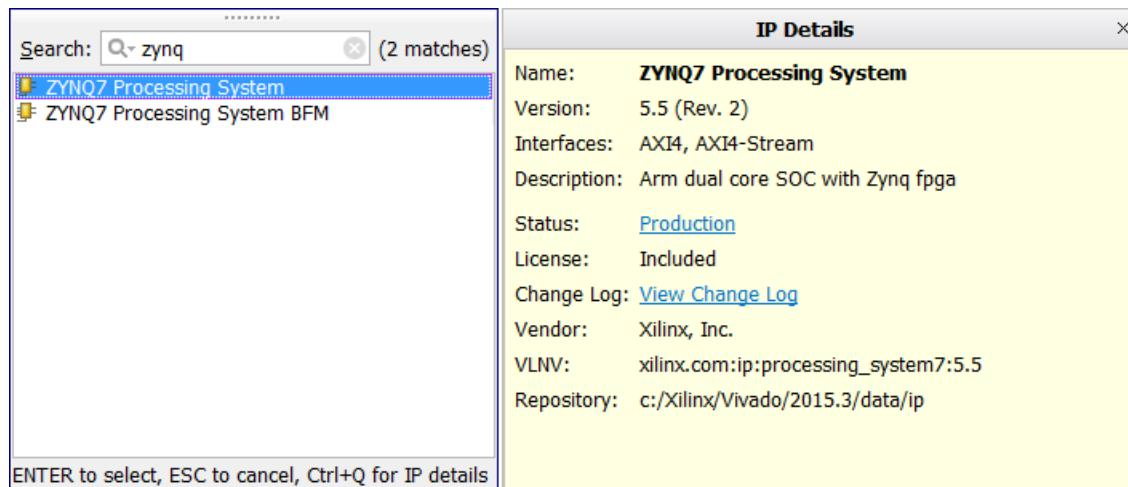

Figure 52: Instantiate the ZYNQ7 Processing System
6. In the Search field, type `Zynq`, select the **ZYNQ7 Processing System** IP, and press **Enter**. Alternatively, double-click the **ZYNQ7 Processing System** IP to instantiate it as shown in Figure 52.